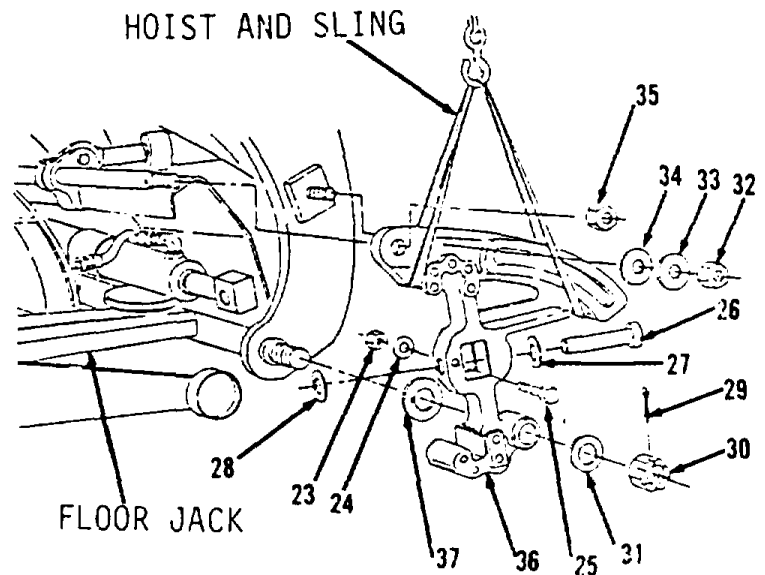

Figure 10-143.
4. Attach hoist and sling to bracket (36, Figure 10-143).
5. Using hoist and sling, position washer (37) and bracket (36). Use washer (37) as required to get sliding fit with maximum 0.7 inch clearance between bracket (36) and wear plate on circle drive.
6. Install bracket (36), nut (35), washers (34 and 33), nut (32), washer (31), nut (30) and new cotter pin (29). Tighten nut (30) to .00 clearance then back off nut (30) one slot to install cotter pin (29). Tighten nut (35) to 1200 ft-lb. torque. Maintain clearance given in previous step 5.
7. Install washers (28 and 27), pin (26), bolt (25), washer (24) and nut (23).
8. Remove hoist and sling from bracket (36).